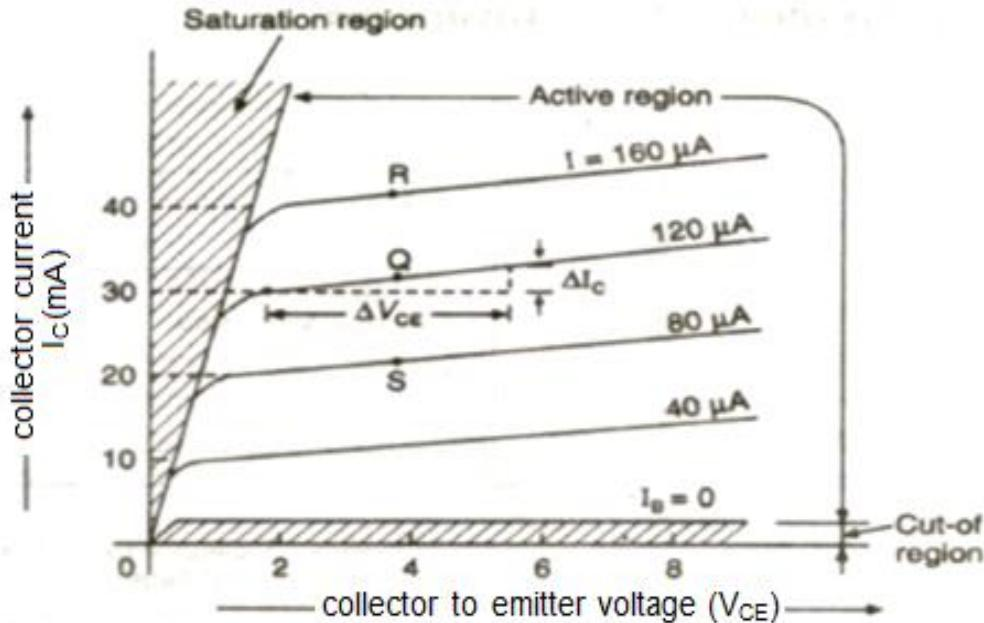

Fig. 3.13 Output characteristics of a common emitter transistor
- If we plot a graph with collector to emitter voltage ( $V_{CE}$ ) along the horizontal axis and the collector current ( $I_c$ ) along the vertical axis, we shall obtain a curve marked  $I_B = 40 \mu\text{A}$  as shown in Fig. 3.13.